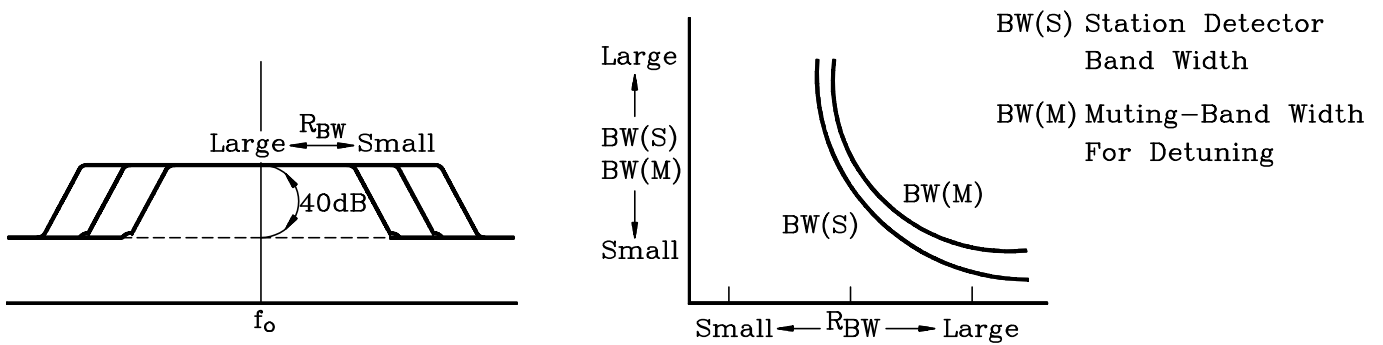
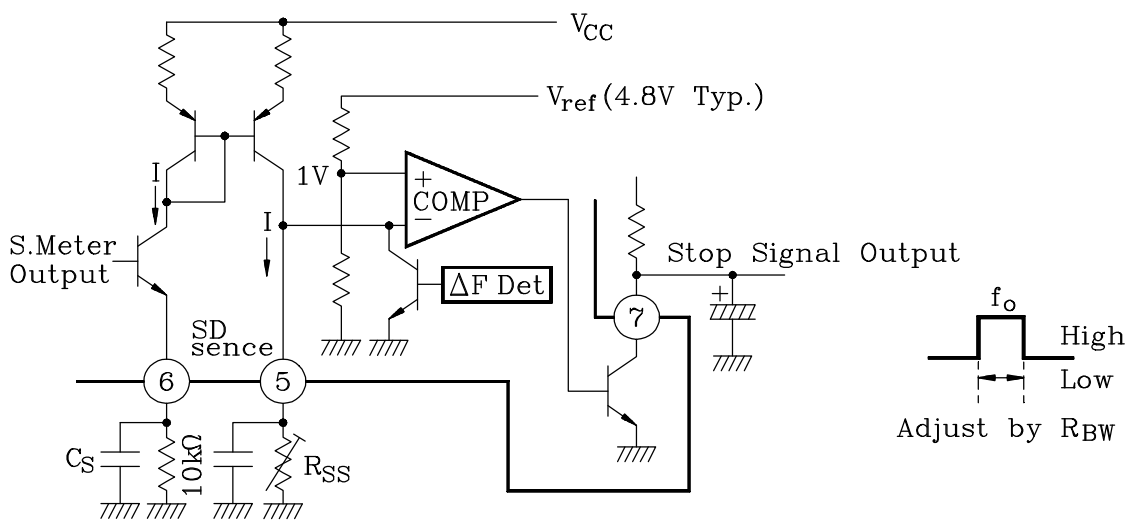

Fig.5
Fig.6
In the ⑨ pin of AFC terminal, \pm currents proportional to the S curve are generated. The AC component of them is smoothed by an external capacity and a DC voltage is generated in ⑨ pin by R_{BW} connected between ⑨ pin and ⑬ pin. When the DC voltage generated by R_{BW} becomes over about $\pm 0.7V$, the detection circuit (Δf Det) is operated to attenuate the AF amplifier by about 40dB. The width of muting for detuning is determined by the resistance value of R_{BW} , but the coil previously described is varied by setting, and set the value of R_{BW} after setting of the coil. The property when varying R_{BW} on the condition of the measuring circuit is shown figure 5.
The station detector (stop signal generator of DTS) detects detuning by the signal intensity of input and Δf detection circuit (Δf Det) respectively and outputs through AND circuit. As shown in Figure 6, the signal meter output is converted into the current I by the $10k\Omega$ connected to ⑥ pin and outputs the current I in ⑤ pin by a current mirror circuit. This current is converted to -INPUT of the comparator where 1V is added to +INPUT. Therefore, the stop signal sensitivity can be adjusted by varying the value of the R_{SS} connected to ⑤ pin. Also, the variable width of the stop signal sensitivity is set widely as about $40dB\mu$ by IF input voltage (when $R_{SS}=2k\Omega \sim 10k\Omega$). The band width is varied by R_{BW} as shown in Figure 5.